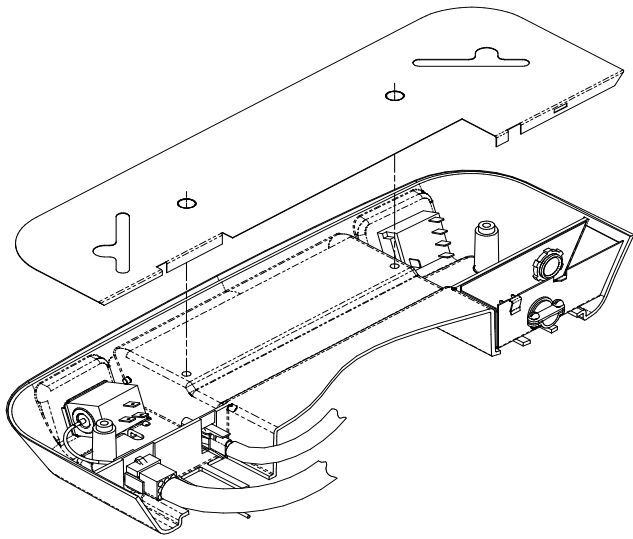

FIGURE 7
Plug the heater cord into the 2 position receptacle (See Figure 7).
- H. Place the metal control box shield over the thermostat, switch and field wiring boxes. Make certain that all wires are pushed into the control boxes or laying in the wireway between the thermostat and switch boxes and will not be pinched by the control box shield. Control box shield is properly installed when the two holes in the shield are aligned with the two screw holes in the ceiling assembly chute (See Figure 7).
- J. The ceiling assembly shroud is curved to contour to a crowned ceiling. If installation is to a flat ceiling and gaps are present on the sides of the shroud, insert the four optional 3/4 inch screws (provided) through the mounting posts and secure them to the mounting frame above (See Figure 7, 8, & 9 for screw locations).